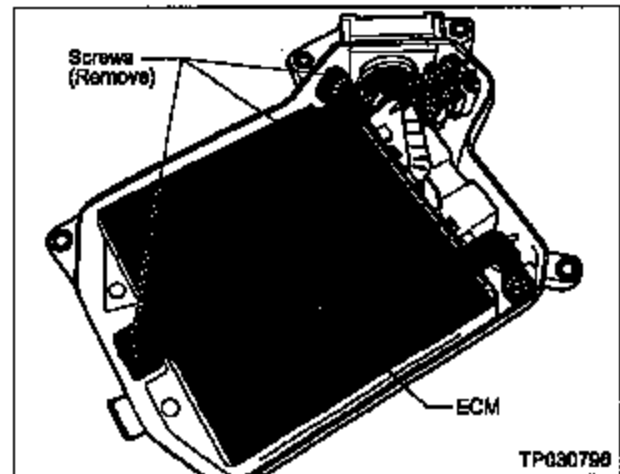

Figure 9
9. Remove the three Screws that secure the ECM to the base of the Case Holder (see Figure 9).